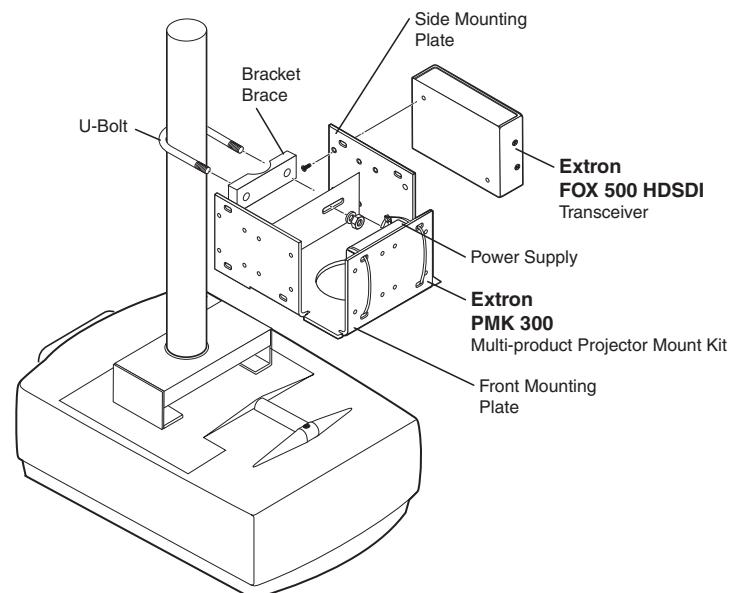
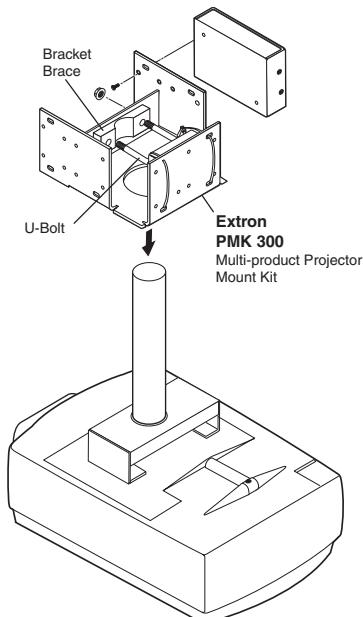

Figure 2-5 — PMK 300 projector mounting a transceiver
Figure 2-6 — Projector pole on the inside
2. Mount the transceiver to one of the bracket's three mounting plates using two of the supplied 4-40 x 3/16" screws in opposite (diagonal) corners to secure the device to the bracket. It can be vertically mounted facing either up or down (figure 2-5).
NOTE *The PMK 300 has a hole in the bottom plate that allows the projector pole to be inserted through the center of the plate (figure 2-6), rather than outside of the plate (figure 2-5). To install the PMK 300 in this configuration, slide the bracket up from the bottom of the pole before the projector is installed on the pole.*